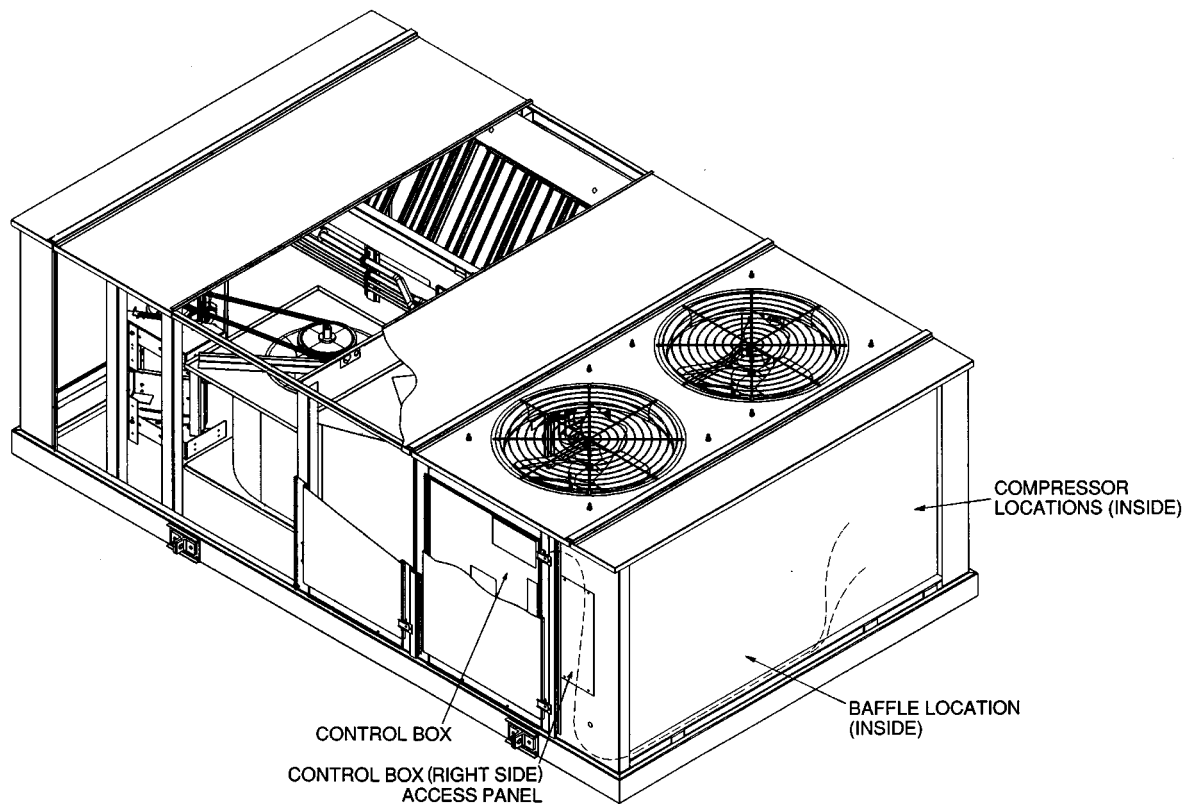

Fig. 6 — Control Box Location and Thermistor Routing, 024-030
11. Run the other ends of the 2 thermistors (probe ends) underneath the baffle in the condenser section over to the compressors with the marked thermistor going to compressor no. 1. See Fig. 6 and 7.